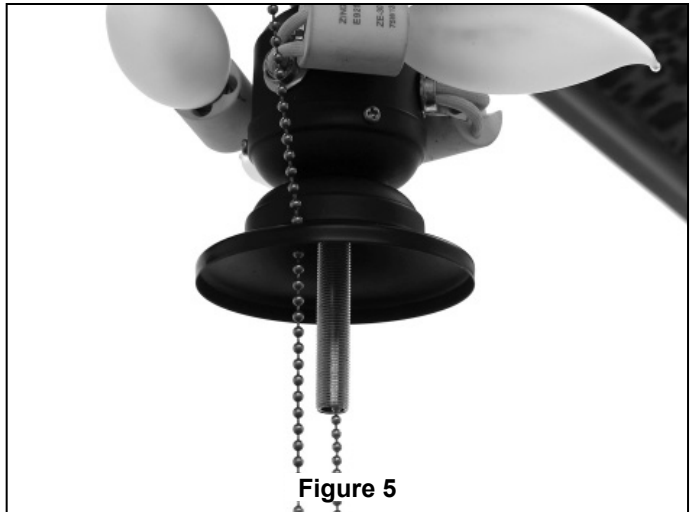

Figure 5
5. Route the fan pull chain thru the hole on the fitter flange as shown. (Figure 5)